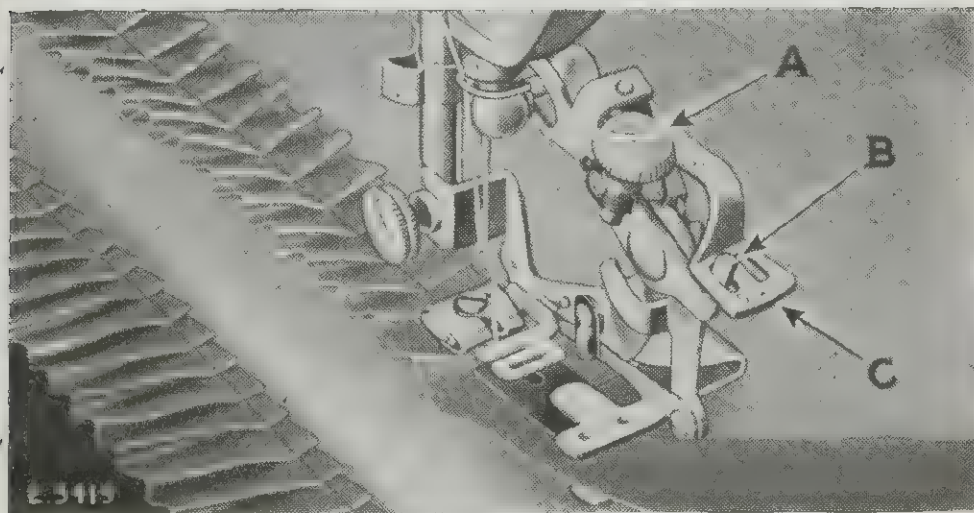

FIG. 34
To make a gather or plait at every fifth stitch, raise the adjusting lever (C, Fig. 34) and
move it to the right so that the projection (B, Fig. 34) will enter the slot marked "5" in the adjusting lever when the lever is released. The ruffling blade will then move forward and back once every five stitches. The fullness of the gathers or plaits is regulated by the thumb screw (A, Fig. 34) and the length of stitch. To make a fuller gather or plait, turn the thumb screw (A) down, also lengthen the stitch. To make a finer gather or plait, turn the thumb screw (A) up, also shorten the stitch.